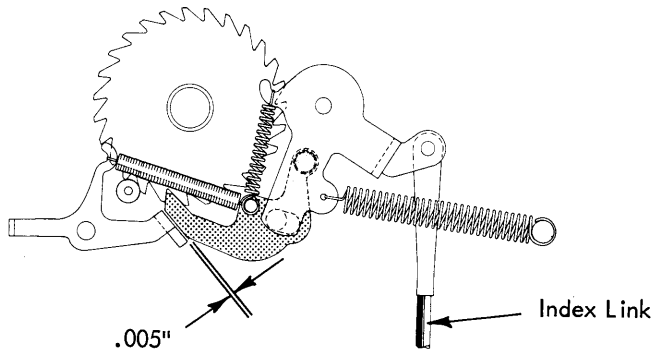

FIGURE 153. *Platen Overthrow Stop*
4. Platen Overthrow Stop - With the index cam rotated to its high point, adjust the platen overthrow stop to clear the index pawl by .005" (Fig. 153).